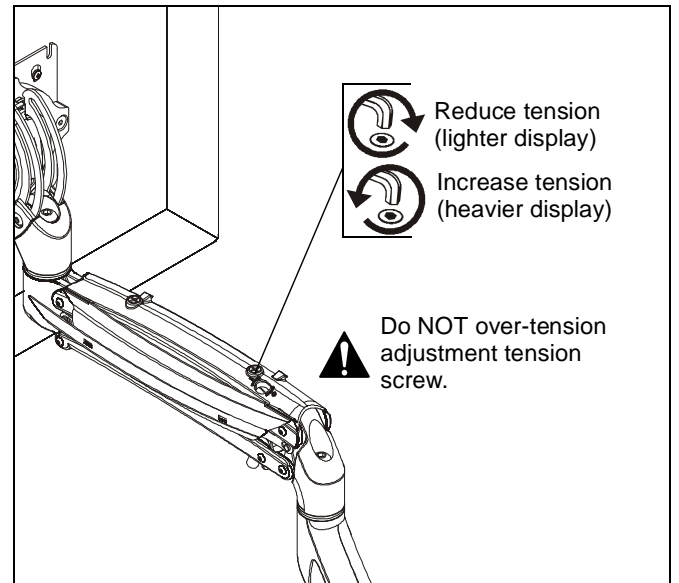

Figure 21
- Tension may be adjusted with tension adjustment screw inside cable management cover and 1/8" hex key (N). Turn clockwise to reduce tension or counter-clockwise to increase tension. (See Figure 21)